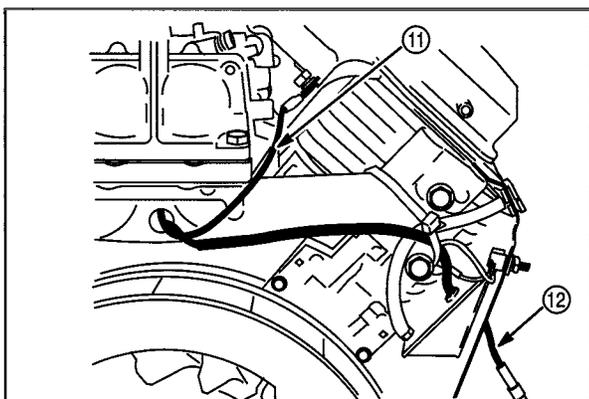

Fig. 34
- Assemble carburetor (3), gasket (7), spacer (8) and gasket (9) to intake manifold.
- Route both solenoid wires (10) through hole in intake manifold. Torque three screws to **65 in. lbs. (7 Nm)**.
- Install solenoid ground wire (11). Torque screw to **65 in. lbs. (7 Nm)**.
- Route long solenoid wire (12) under wire tie on manifold, then through hole in #1 cylinder shield, **Fig. 34**.